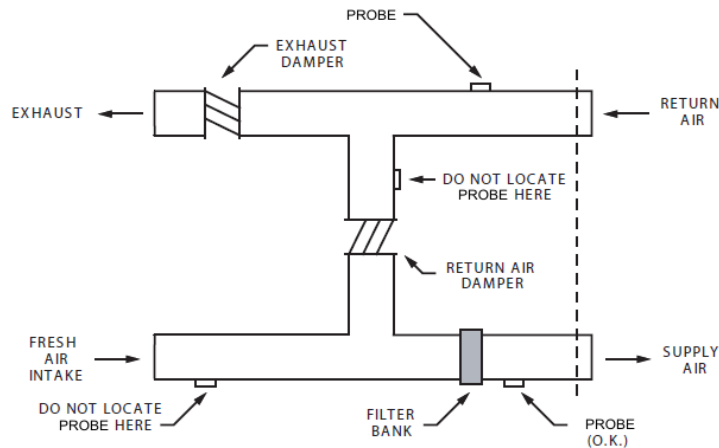

Figure 3-11: Probe Placement - Location of Dampers
2. Position the probes so that dampers do not restrict air flow at the probe location (Figure 3-11).
3. Position the probes on the return or supply duct of the equipment's air handling system. However, probes should NOT be installed in the return air damper branch (Figure 3-11)
5. Position the probes on the downstream side of filters to sense fire in filters. However, should the filters block, sufficient air flow may not be available for proper detector/sensor operation (Figure 3-11).